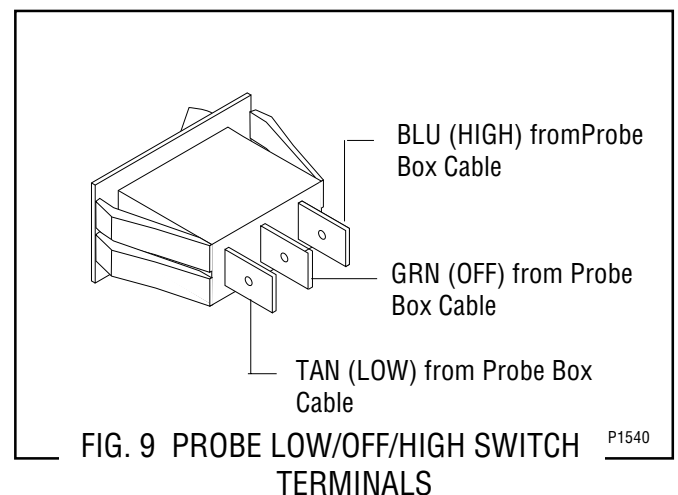

FIG. 9 PROBE LOW/OFF/HIGH SWITCH TERMINALS
5. Refer to Fig 9 when reconnecting the wires.